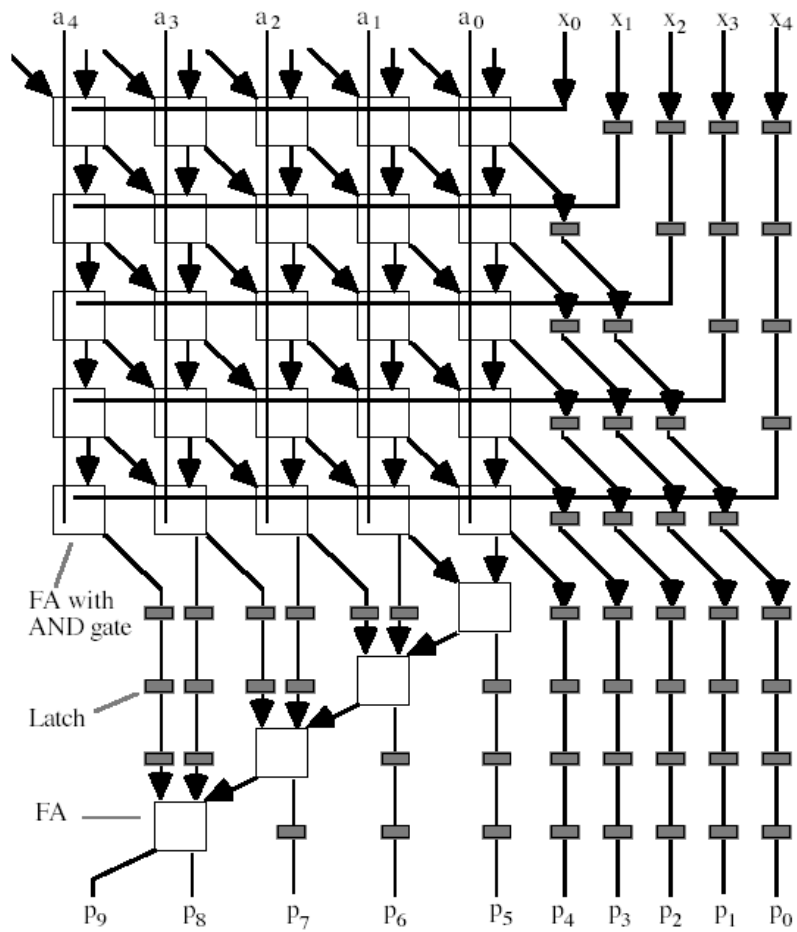

Fig. 2a. Pipelined Array Multiplier (for $k=5$)
- C. pipelined array multiplier shown in Figs. 2a and 2b (diagram for $k=5$).